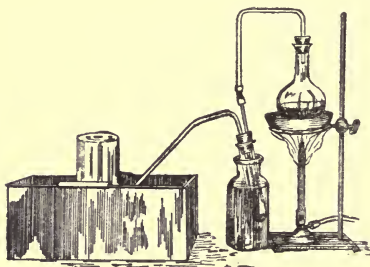
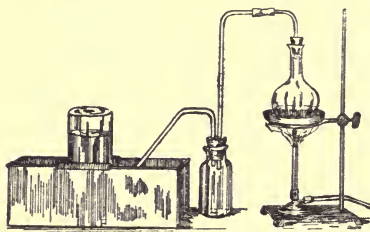

Fig. 32.
Fig. 33.
(1) Put into a flask (of 200cc capacity) 10g of  $NH_4NO_3$ , not too coarsely crystalline (so as not to break the flask in melting). Connect the flask with a large t.t. (resting in a rec. of  $H_2O$ , Fig. 32), or with a rec. *which contains no water* (Fig. 33), and from this t.t. or rec. have a d.t. leading to a p.t., so as to collect the gas over water. Have the joints tight and the tubes pass through the stoppers. Apply heat not too rapidly, notice the order of changes and give the main reaction. Are there any fumes in the flask? Is the gas colored, and why? Obtain 2 recs. of gas, then remove the lamp and take the d.t. from the water, letting the flask cool on the r.s. (2) Taste *a drop* of the liquid in the large t.t. or rec.,